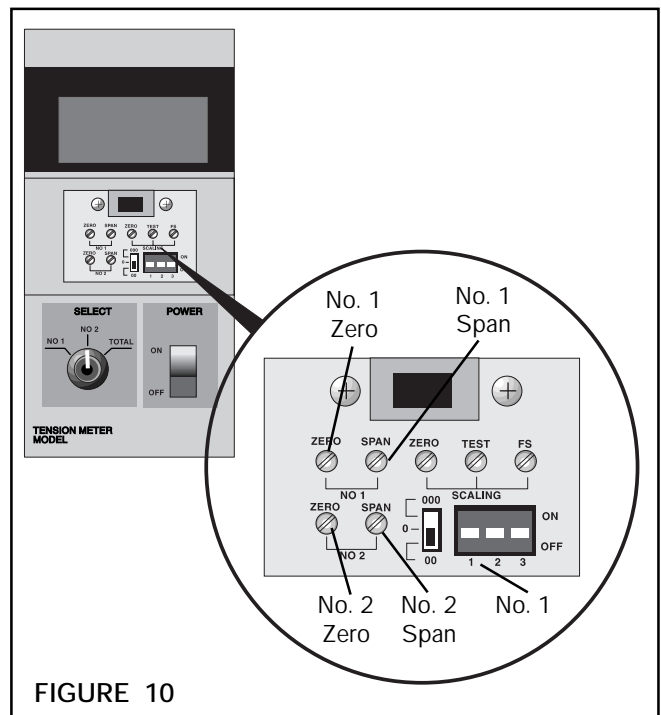

FIGURE 10
3. Set **No. 1 Dip Switch** to **ON**. This sets the TM210 for **ZERO** and **SPAN** Setting (See Fig. 10).
5. Rotate **No. 1 ZERO** variable resistor to obtain **000** on the indicator (See Fig. 10).
10. Rotate **No. 1 Span** variable resistor until the Indicator reads the known weight or **W** (See Fig. 10).
12. Rotate **No. 2 Span** variable resistor until the Indicator reads **000** (See Fig. 10).
15. Set the **No. 1 Dip Switch** to **OFF**. This sets the TM210 to the Normal Operating Mode (See Fig. 10).